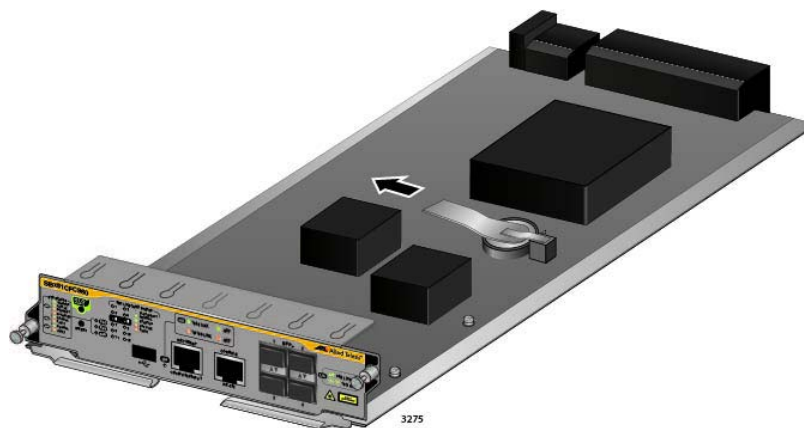

Figure 66. Removing the Battery Insulator
4. Carefully remove the battery insulator tab on the controller card by sliding it out from between the battery and battery clip, as shown in Figure 66 on page 130.